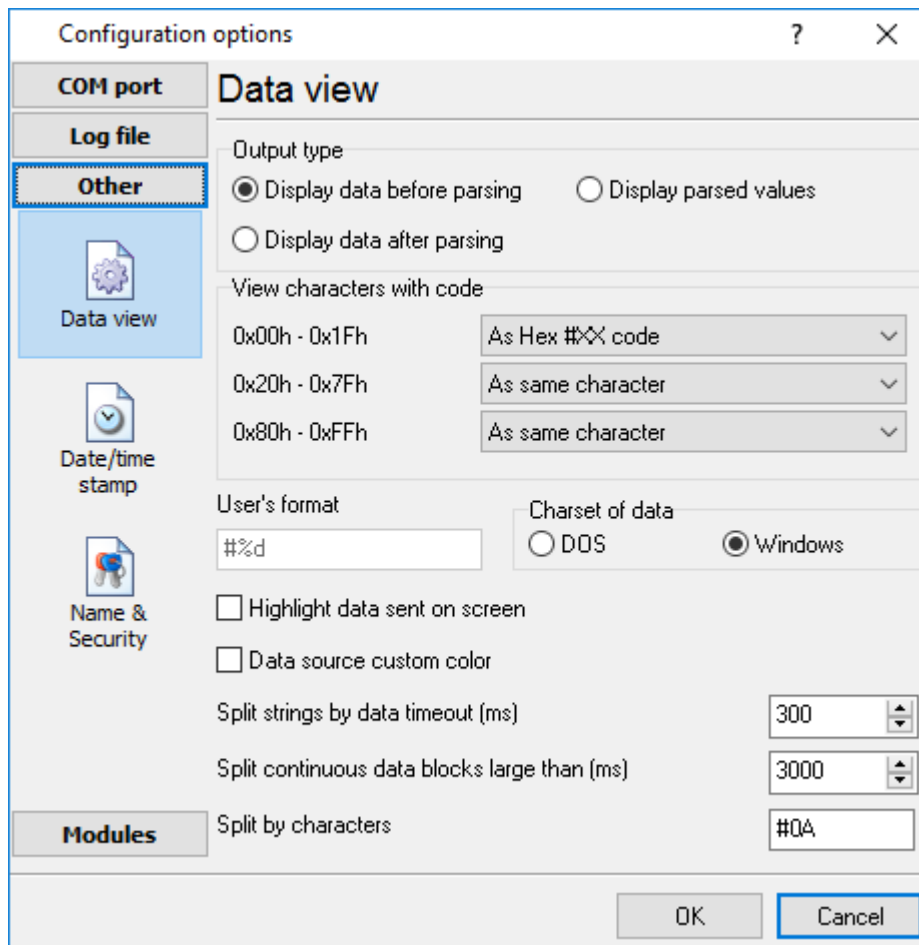

Fig. 14. Data view
8. **Split by characters** - this option allows to visually splitting continuous data flow in the program window using the specified symbols. For example (fig. 14), the program will use a character with the 0Ah hexadecimal code that is equal to the "LF" ASCII code.